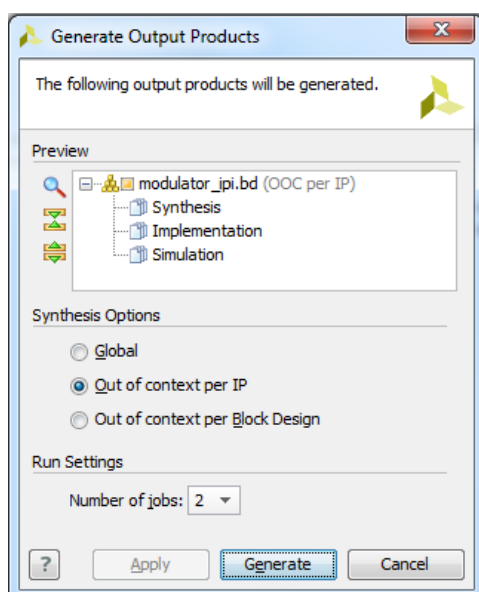

Figure 38. Generate Block Design window
- 3-3-8.** Under **IP Integrator**, click **Generate Block Design** and select **Generate** (Figure 38). The option “out of context per IP” can significantly reduce synthesis run times because the IP cache can be used with this option to prevent Vivado synthesis from regenerating output products for specific IP if they do not change.